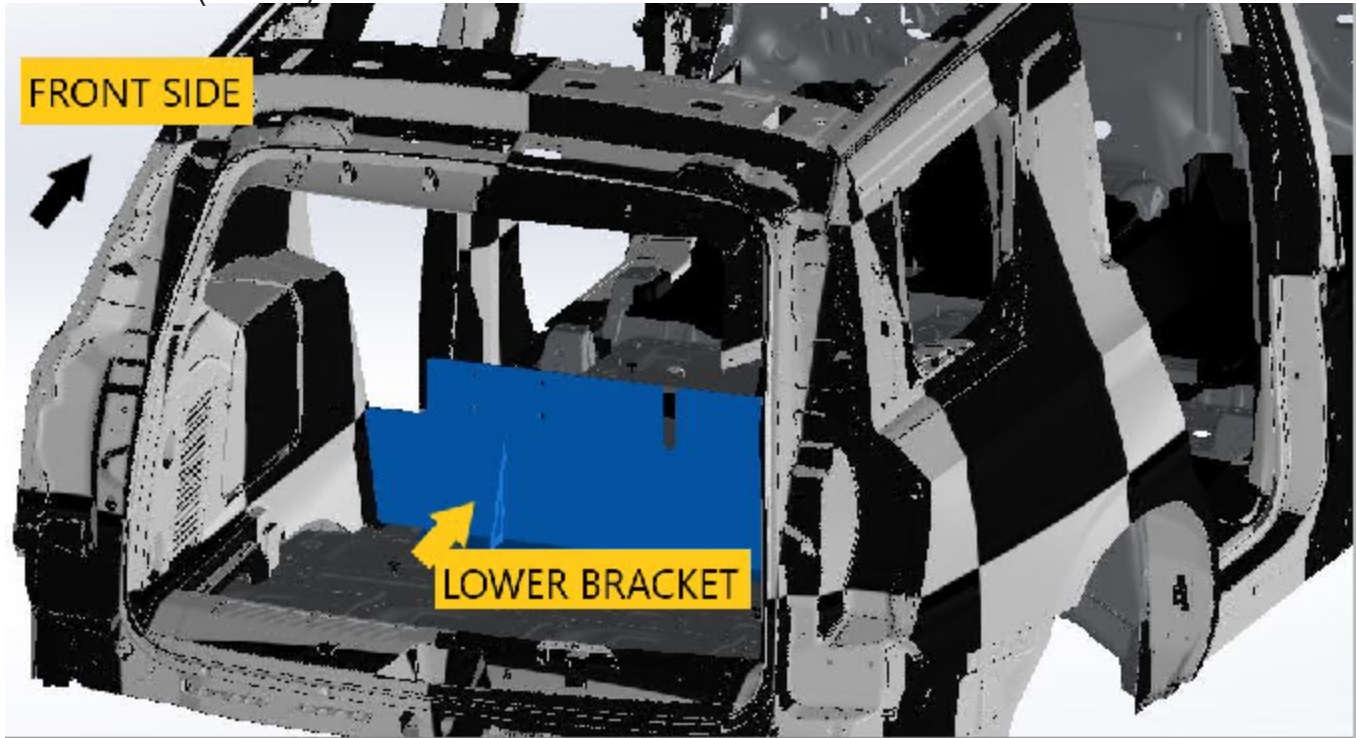

Fig.5 Lower Bracket (Item#2) Installed, viewing from rear
4. Once mounting location is found, align Lower Bracket (Item#2) to the hole as shown in Fig.5. Mark up other two holes of off Lower Bracket Slots (Item#2) & using hardware provided tie tie down lower bracket (Item#2) to OEM Frame.